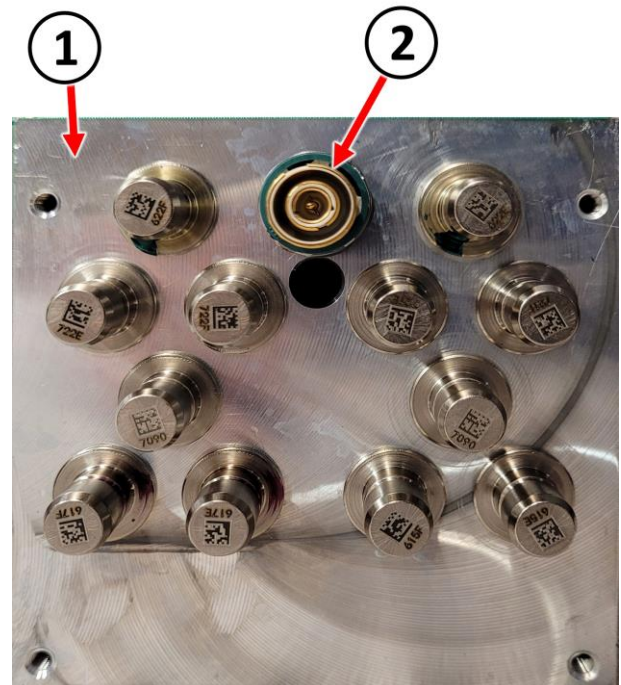

Figure 6 – IPT
22. Tighten IPT (2) to a torque of 15 Nm (11 ft. lb.) (Figure 6).
24. Prior to installing ABS module, carefully wipe HCU outer mounting face (1) with an absorbent towel saturated with Isopropyl alcohol to remove any residual brake fluid (Figure 6).
25. Ensure ABS module mounting face (1) of HCU is dry before installing ABS module.